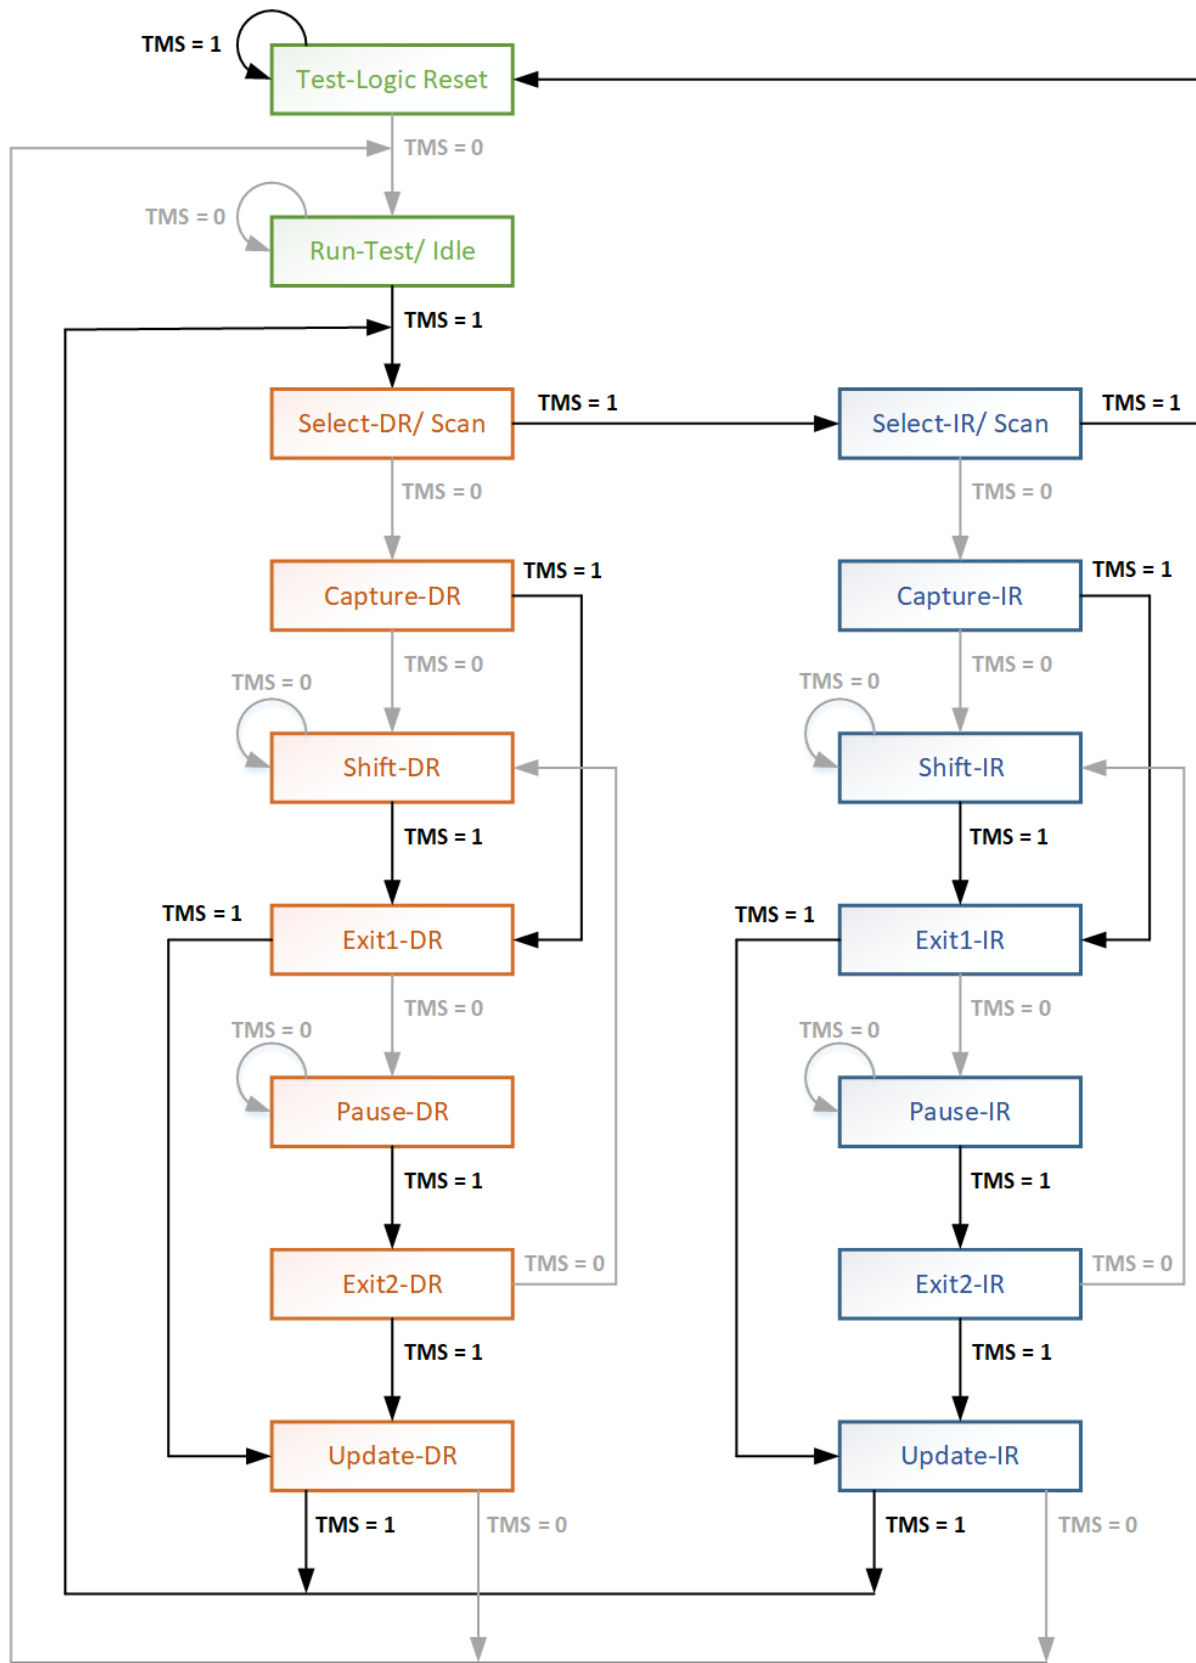

Figure 2: State transition diagram of TAP Controller FSM
It controls the JTAG operation. It is basically a 16-state Finite State Machine (FSM) whose state transitions are controlled by the TMS signal as shown in Figure 2. The TAP controller can change state only at the rising edge of TCK and the next state is determined by the logic level of TMS and the present state.
- **Shift-DR and Shift-IR:** In this state, the required test data is loaded (or unloaded) serially into (or from) the corresponding Register. If you refer the Figure 2, when the TAP controller is in this state, it will stay at this state as long as TMS=0. For each clock cycle, one data bit is shifted into (or out of) the selected Register through TDI (or TDO).